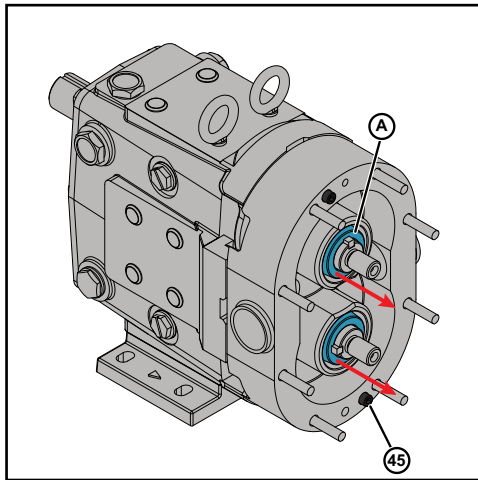

Figure 121 - Install Cap screw
4. Secure the pump body to the gear case using two cap screws (45).
5. Remove both the installation guide (A) from the pump body, as shown in Figure 121.